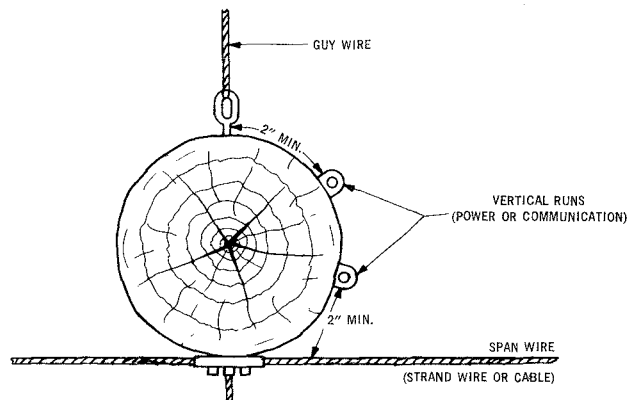

Fig. 2 — Minimum Separation Between Vertical Runs on Surface of Pole and Other Pole Attachments
4.01 Vertical runs attached to the surface of the pole shall be separated from span or guy wires by at least 2 inches (See Fig. 2). Vertical runs enclosed in a moulding of adequate electrical insulating and mechanical properties